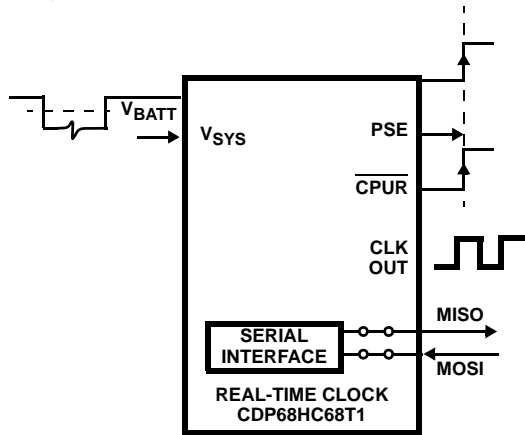

FIGURE 6. POWER-UP FUNCTIONAL DIAGRAM (INITIATED BY A RISE IN VOLTAGE ON THE " V_{SYS} " PIN)
Watchdog Function (See Figure 6)
2. The second condition that releases Power-Down occurs when the level on the V_{SYS} pin rises about 1.0V above the level at the V_{BATT} input, after previously falling to the level of V_{BATT} (see Figure 6) in the Battery Backup Mode or V_{SYS} falls to logic low and returns high in the Single Supply Mode.